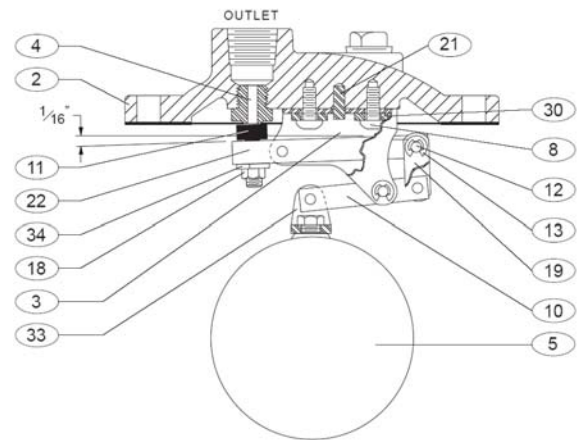

FIGURE 4. ORIFICE BUTTON ADJUSTMENT
- Apply Loctite PST No. 565 thread sealant to seat (4) and assemble to cover with maximum torque of 20 ft-lbs; DO NOT OVER-TORQUE.
- Assemble lever frame (3) to cover over locating pin (21) in cover. Secure with screws (8) and washers (30).
- Install new orifice button (11) flush to arm (22). Assemble lockwasher (34) and locknut (18) over orifice button but do not tighten.
- Connect arms (10 & 22) and assemble to lever frame (3) with four pivot pins (12) and retaining rings (13); rings should snap over pins.
- Adjust orifice button (11) so that orifice button arm (22) slopes up about 1/16" when resting gently against seat (4) as shown in Figure 4. Secure button by tightening lockwasher (34) and nut (18).
- Attach float (5) by installing last pivot pin (12) into lever frame (3). Float should move freely pressing the orifice button (11) against the seat (4) when pushed upward. Verify that all retainer rings (13) are properly secured.
- Assemble gasket (6) and cover (2) over bolt holes in body (1).
- Insert lubricated bolts (7) and tighten to the torques listed in Table 2.